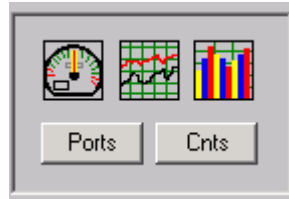

Figure 7. Graphics Image.
- same counter for different ports (figure 7, **Cnts** button);
- different counters for a single port (figure 7, **Ports** button);